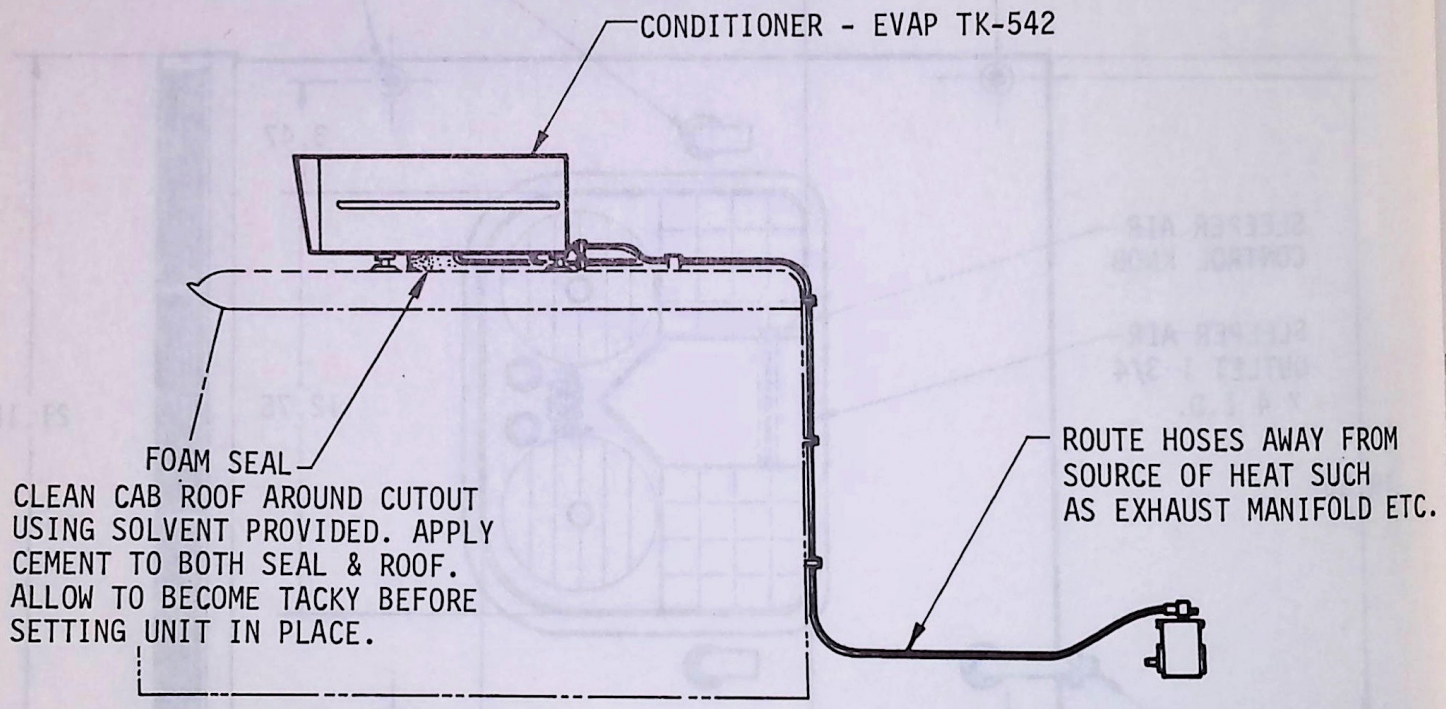

FIGURE 2
13. ATTACH FITTINGS TO ONE END OF EACH OF THE TWO REFRIGERANT HOSES PER INSTRUCTION SHEET PACKED IN HOSE KIT. ATTACH FITTINGS TO AIR CONDITIONER USING REFRIGERANT OIL ON THE FLARES AND THREADS AS A LUBRICANT TO ASSURE TIGHT SEAL. USING FIGURES 2, 3 AND 4 AS A GUIDE ROUTE HOSES DOWN BACK AND UNDER CAB TO COMPRESSOR. SECURE IN PLACE USING HARDWARE FURNISHED AS SHOWN IN FIGURES 2, 3 AND 4. ON TILT CAB MODELS ROUTE HOSE TO PIVOT POINT AND THEN BACK TO COMPRESSOR.